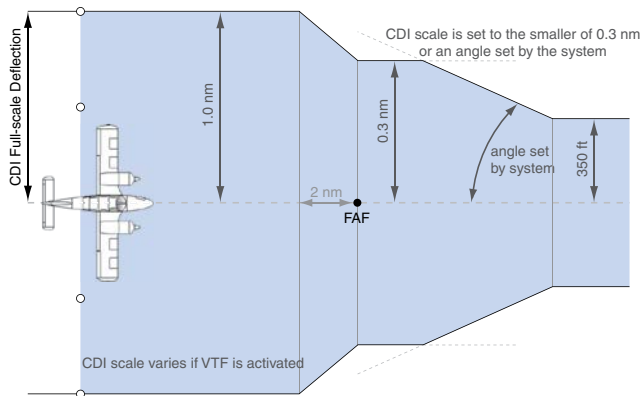

Figure 2-27 Typical LNAV and LNAV+V Approach CDI Scaling
- During **approach**, the CDI scale ramps down even further (Figures 2-27 and 2-28). This transition normally occurs within 2.0 nm of the final approach fix (FAF). The CDI switches to approach scaling automatically once the approach procedure is activated or if Vectors-To-Final (VTF) are selected.